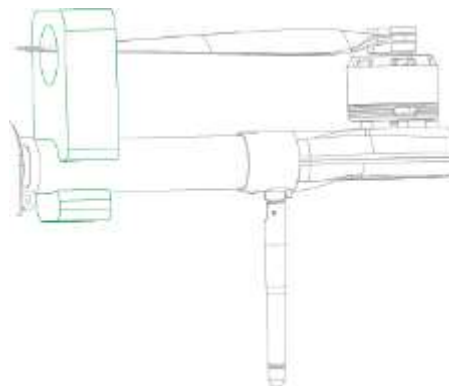

Figure 0-5
Step 1 Fold propeller blades, and and fix them onto the arm with sheath, as shown in Figure 0-5.